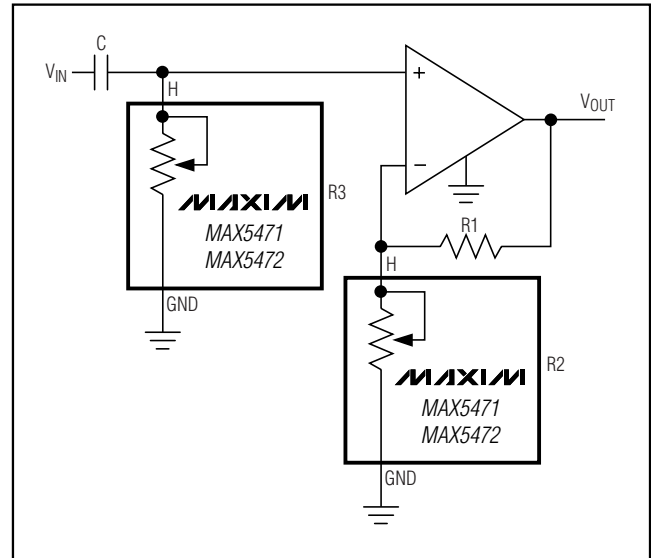

Figure 6. Programmable Filter
Figure 6 shows the configuration of a 1st-order programmable filter. The gain of the filter is adjusted by R2, and the cutoff frequency is adjusted by R3. Use the following equations to calculate the gain (G) and the 3dB cutoff frequency (fC):